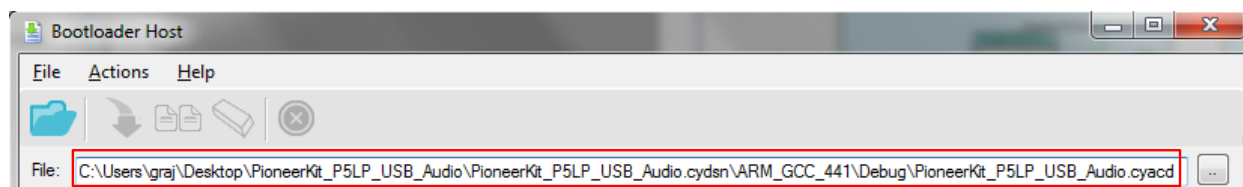

Figure 8: Target File location in Bootloader Host
- Point the File location to the *PioneerKit_P5LP_USB_Audio.cyacd* file as shown in Figure 8. The file is present in <Install Directory>\ *PioneerKit_P5LP_USB_Audio*